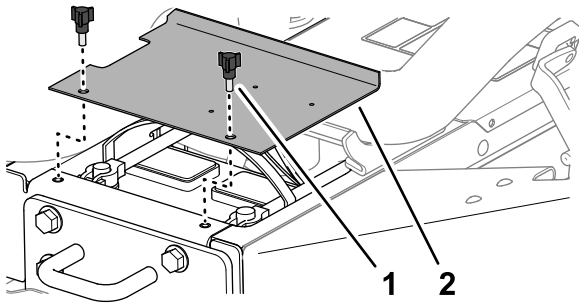

Figure 42
1. Release the latches at the left side and right side of the hood (Figure 42).